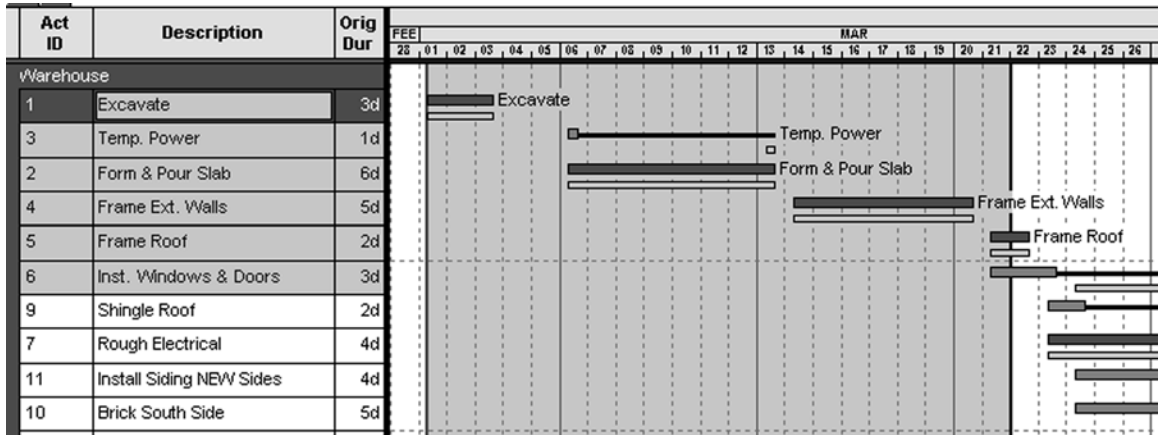

FIGURE 21.12 Setting the data date
- E. Set the Data Date.** The data date represents today’s date. If the project has not been updated, the data date is the project start date. In SureTrak, the data date is always in the morning. To update a project through Friday night, make the data date Saturday morning. For this exercise, set the data date to be about three weeks beyond the project start date. (Do not update activities beyond three weeks because you will update them later by the use of e-mail.) The easiest way to set the data date is to move the mouse pointer over the data date line (red vertical line on the bar chart) until it turns to a double arrow with *DD* on it. Click and drag the data date through the time period you want to update and those activities will be highlighted or spotlighted. The position where the new black line remains is the new data date. The computer screen should look similar to Figure 21.12.